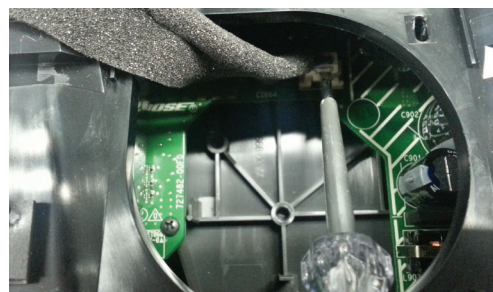

Figure 11. Transducer, Cable
3.2 Figure 11. Detach the transducer cable from the main PCB.